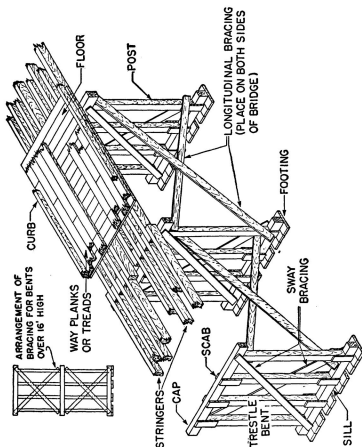

FIGURE 115.—Standard wooden trestle-bent bridge.
d. **Bent.**—Built-up intermediate support in bridge (see fig. 115).
b. The trestle-bent bridge consists of two or more stringer spans. The supports between the abutments are trestle bents. (See fig. 115.)